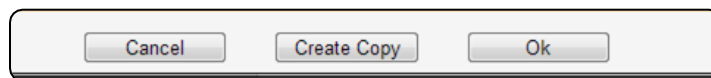

Figure 2-9. Setup GIS Report Dialog Box (Excerpt) – Buttons
- In the Setup GIS Report dialog box, use buttons provided (Figure 2-9) to apply updates (**Ok**) or exit the screen as follows (Table 2-4).